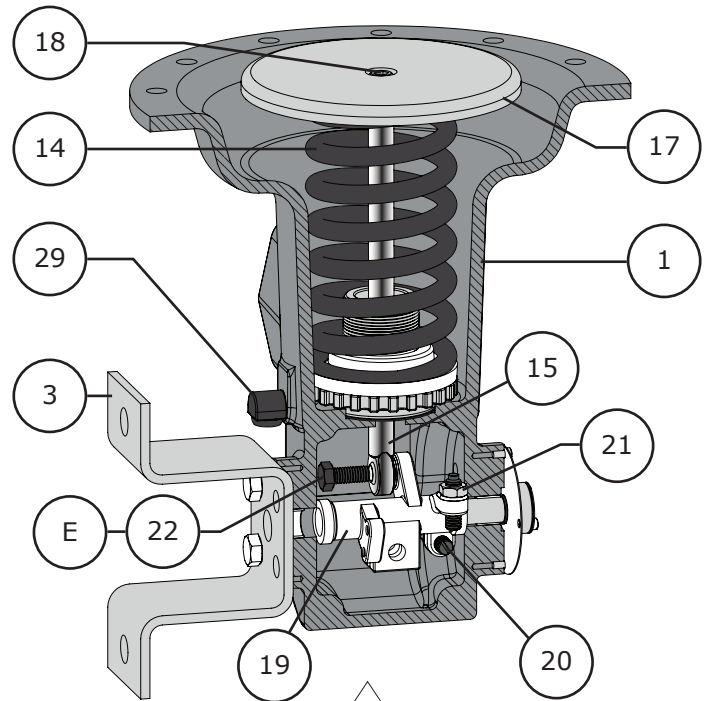

Figure 22 Lever Installation
- 3 Place the diaphragm plate assembly (Keys 15, 16, 17, & 18) into the actuator housing (Key 1). Be aware of the orientation of the rod end bearing (Key 15), the hole in the rod end bearing should be in alignment with the hole in the lever (Key 19). Refer to Figure 22.